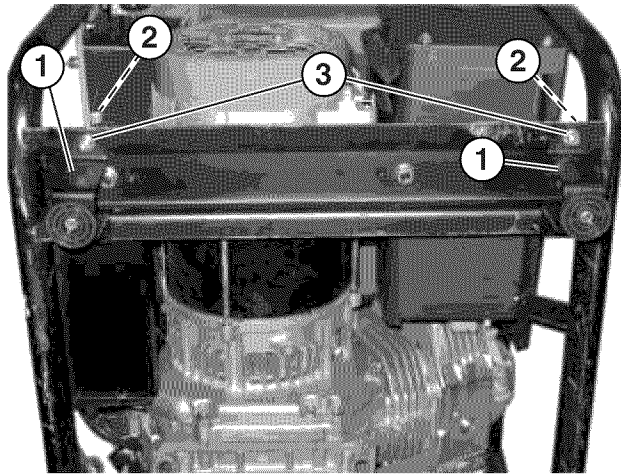

Figure 7 – Assemble Mounting Feet to Frame
4. Install the mounting feet to the frame using four M6 x 18 mm bolts and M6 locking flange nuts (see Figure 7).